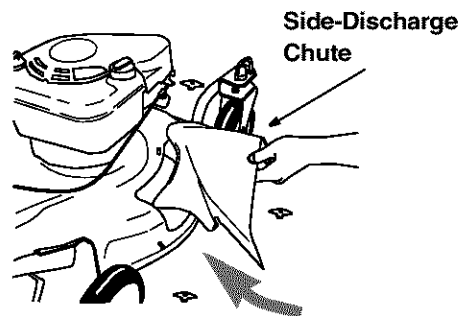

Figure 14
- Attach discharge chute with wing nuts. See Figure 14. Once the side-discharge chute is in place, you can run the mower and the grass clippings will be discharged sideways.